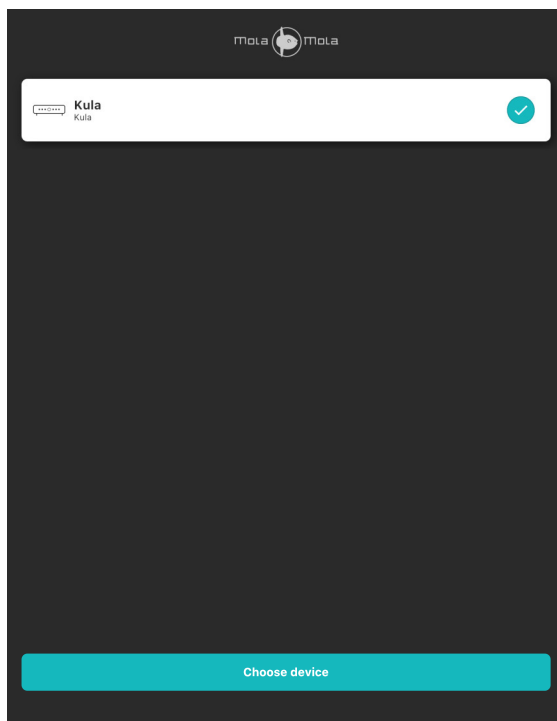

Figure 8: The start-up page.
4. Connect with device by clicking on Choose device at the bottom of the page (figure 8).